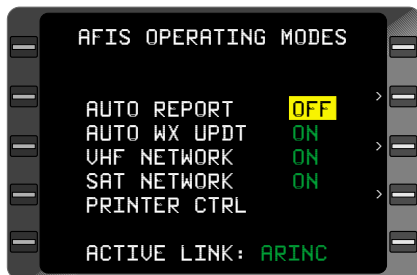

Figure 7-81
5. **BACK** Key - DEPRESS. OFF appears in the cursor. (Figure 7-81)